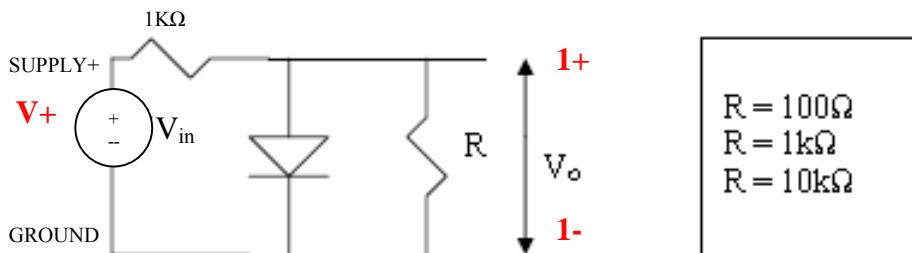

Figure 1.5: Simple Diode Circuit
You should have simulated the diode-resistor circuit shown in Figure 1.5 with the values of R given below.
- a. Build the circuit shown in Figure 1.5 on the NI-ELVIS breadboard with $R = 100\Omega$. Use the 1N4001 or the 1N4004 diode.
- d. Repeat steps a to c for the other values of R given in Figure 1.5 and complete Table 1.2, below.
Table 1.2: Measured V_o for circuit in Figure 1.5